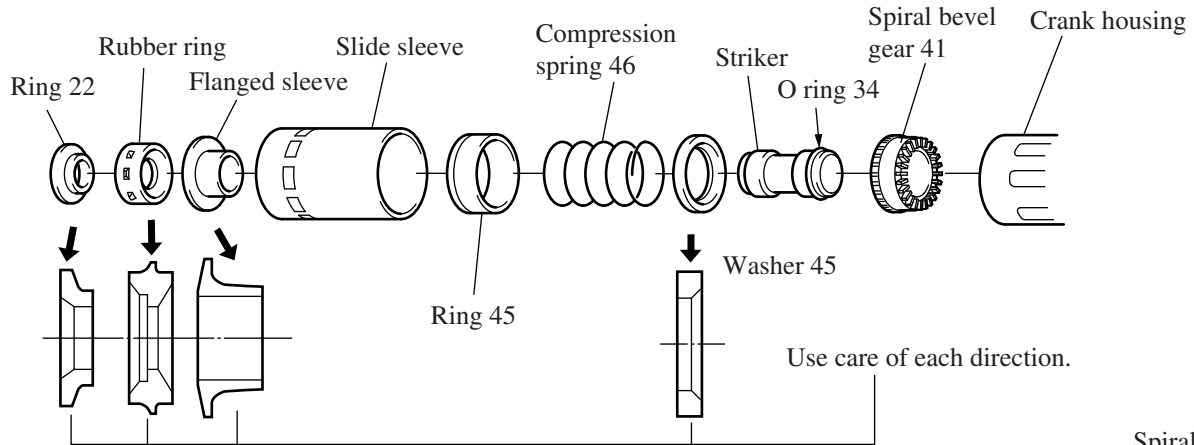

Figure 20
- Set the parts described below into the crank housing.(See the figure 20.)